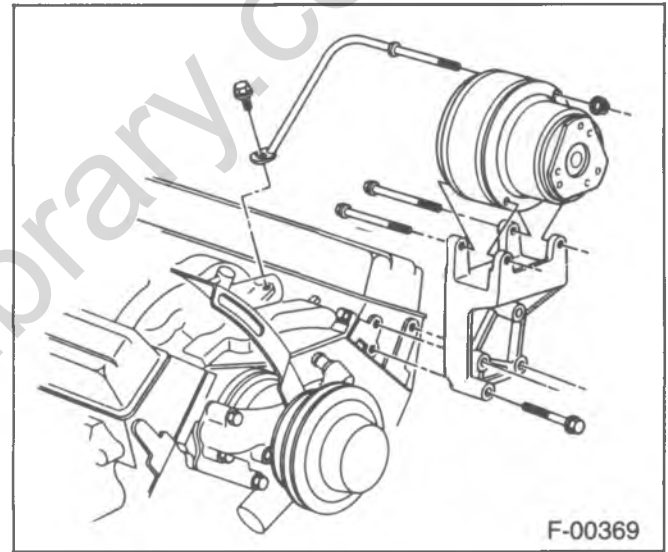

Figure 71—P-Compressor Installation
2. Compressor Installation - refer to figure 71.